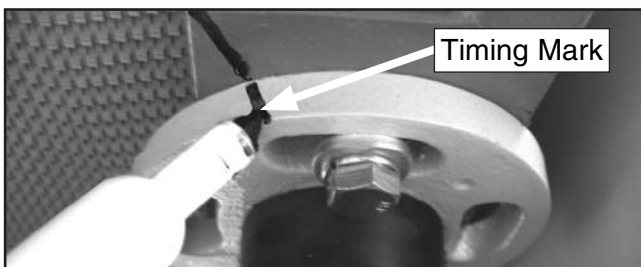

Figure 75. Marking leadscrew for reassembly.
6. Using a permanent marker, mark all four leadscrew flange positions (**Figure 75**), and remove all bolts from the flanges. Try not to turn the flanges during the following steps.